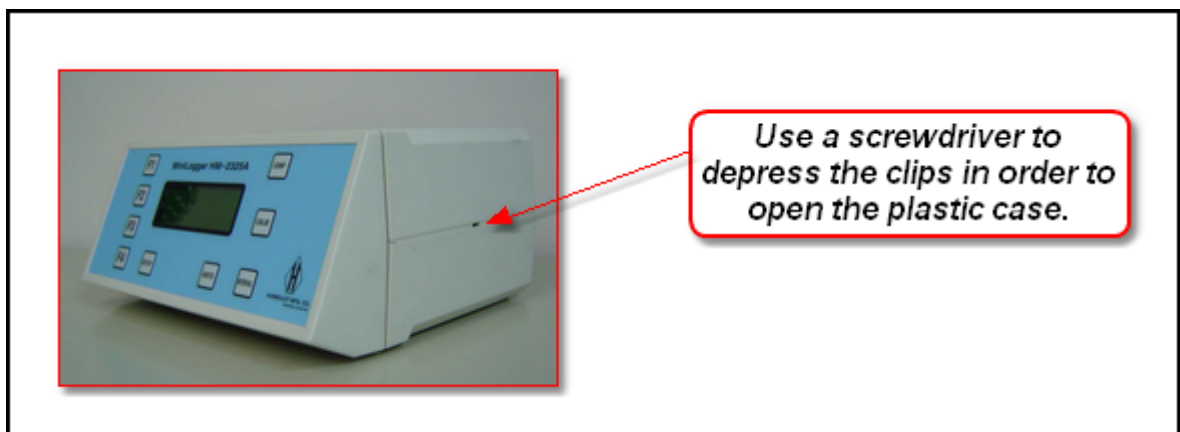

Figure 1: Finding the clips on the side of a HM-2325A MiniLogger.
Step 3: If you are using a HM-3000 or HM-2560, unscrew back panel. Six screws will need to be removed. Anything else will be in plastic housing and the top cover can be taken off using a screwdriver to depress the clips on the sides (Figure 1).